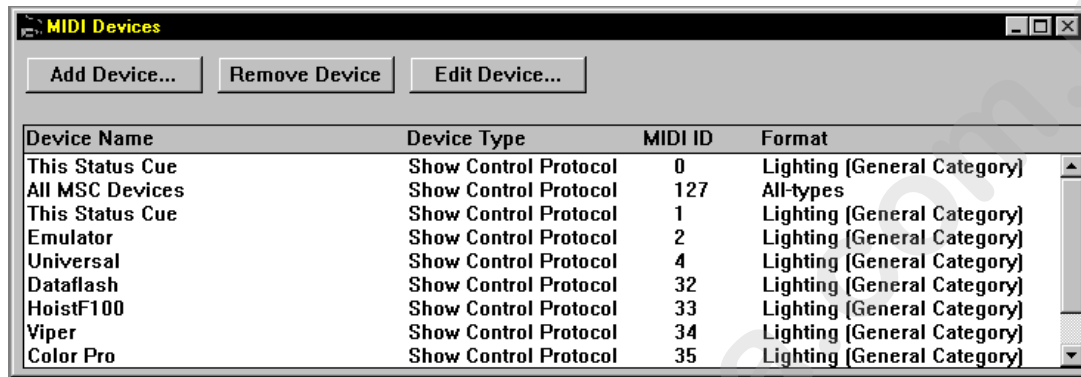

Figure 3.4. MIDI Devices Dialogue Box
8. Repeat the above steps to add additional devices. Refer to Figure 3.4 for a sample dialogue box.
1. Select **MIDI Devices...** from the **Configure** drop-down menu. This brings up the **MIDI Devices** dialogue box. Refer to Figure 3.4.